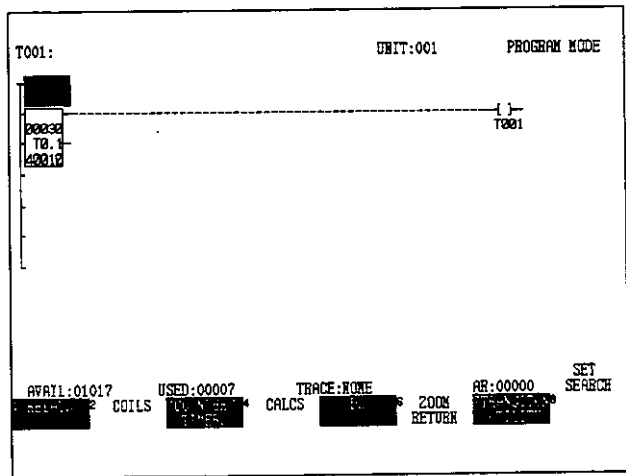

Figure 7.139
- (1) Position the cursor at any transition.
- (2) If the circuit has not been stored, the transition circuit storage screen will be displayed.
- (3) To return from the screen shown in Figure 7.139 to the original SFC Screen, select Zoom Return.
- (4) There is no transition circuit for macro-transition +.